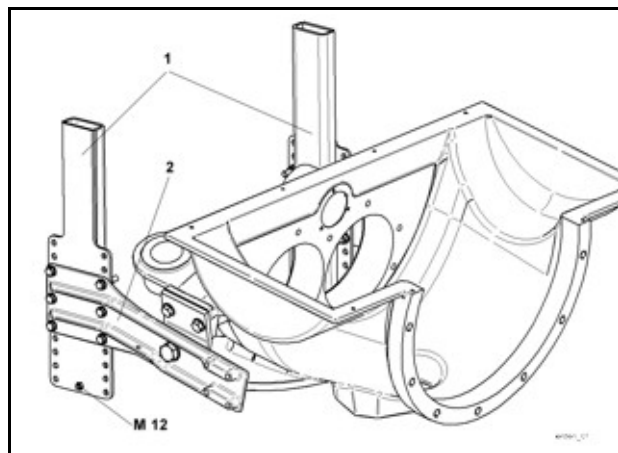

Fig. 159 Rock valve support
A stainless steel screw M12 with nut is pre-installed for the earthing connection on one of the two vertical spars (1) (**Fig. 159**) on the rock valve support (screw inside, nut outside).